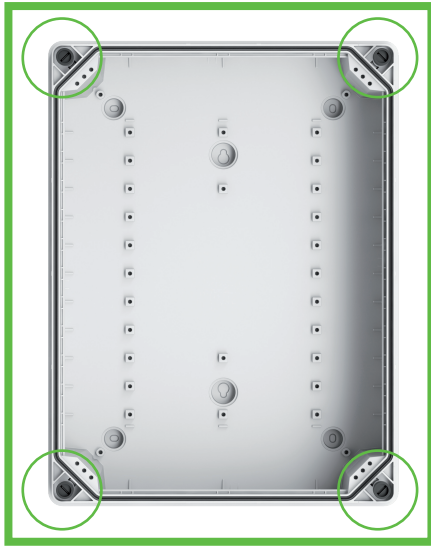

Figure 4: Fixing points
- ▶ Mark the fixing points (Figure 4).